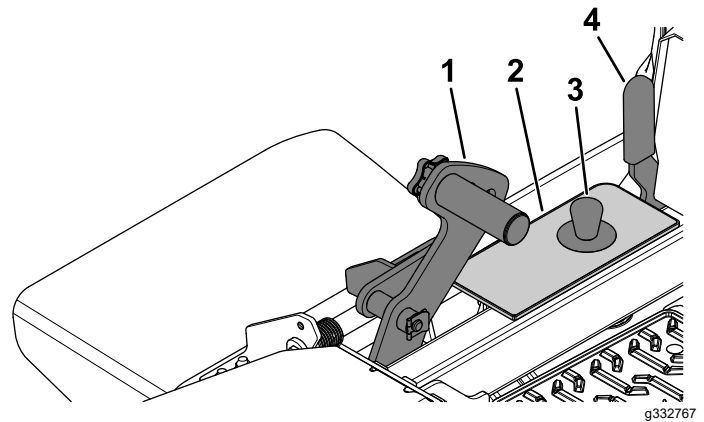

Figure 30
1. Push the deck-lift pedal fully forward to lock the mower deck in the TRANSPORT position (also the 140 mm/5-1/2 inches cutting height position) as shown in Figure 30.
2. To adjust, remove the pin from the height-of-cut bracket (Figure 30).
3. Select a hole in the height-of-cut bracket corresponding to the height of cut desired, and insert the pin (Figure 30).